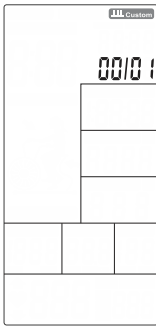

FIGURE 32
1. Press INTERVAL to select INTERVAL CUSTOM, press ENTER to enter this mode and then INTERVAL CUSTOM 00/XX flashes to be set along with the 1s bell beeps. Press UP or DOWN to set 00/XX between 1~99 circularly. Press ENTER to confirm along with the 1s bell beeps and enter the next setting. (Figure 32)